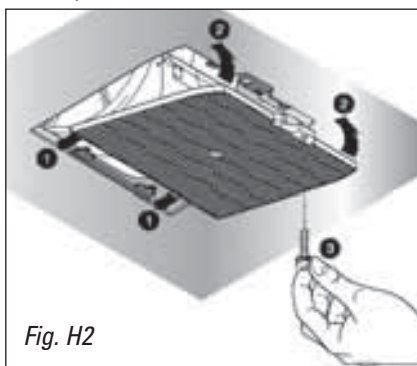

Fig. H2
To assemble or replace the activated charcoal filters, remove the metal filters (FM) as indicated in figure H1-1 and follow the instructions in figure H2.